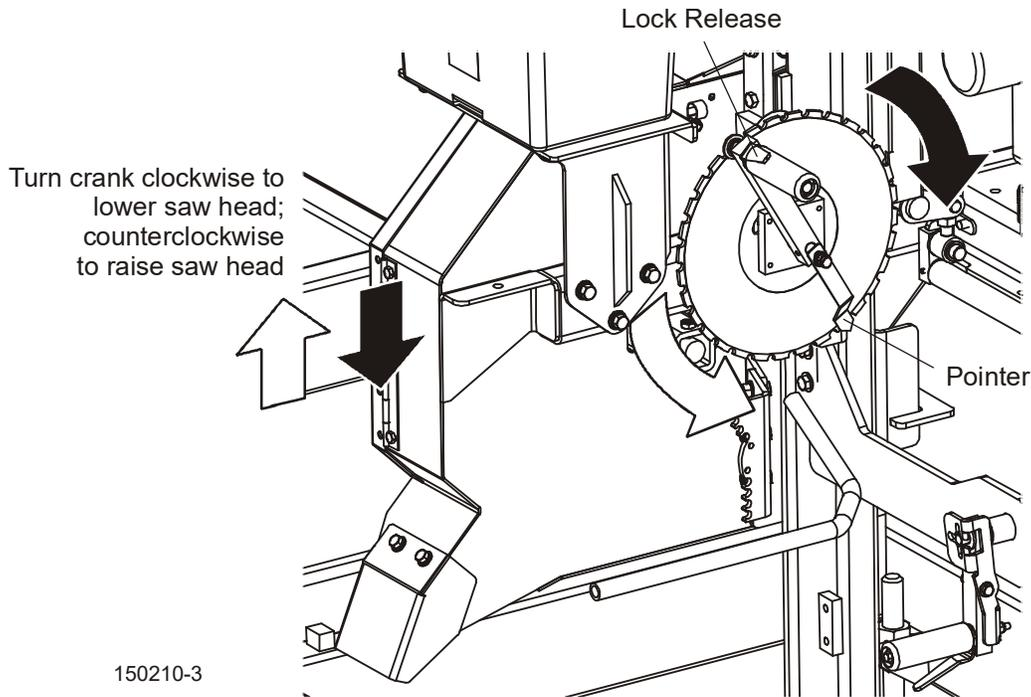

FIG. 5-4
6. Use the pointer and the round up/down blade height scale for quick reference when cutting. See FIG. 5-4.